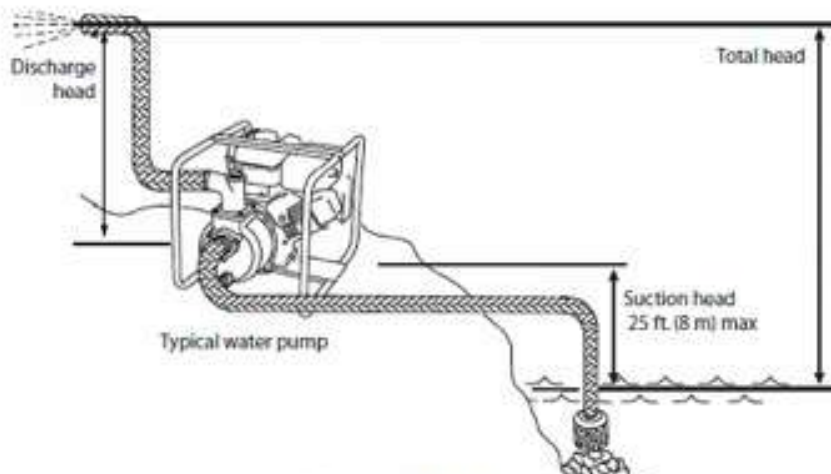

FIGURE 1
**Use this pump for water only**, where the vertical suction head from the water level is 25 ft (8m) or less. Do not exceed the maximum suction head. Head refers to the height of a column of water that can be delivered by the discharge of the pump (Figure 1). Suction head (or suction lift) is the vertical distance between the center of the pump and the surface of the liquid on the suction side of the pump. Discharge head is the vertical distance between the pump's discharge port and the point of discharge. Total head is the sum of the suction head and the discharge head. The elevation above sea level and friction losses must be taken into consideration.